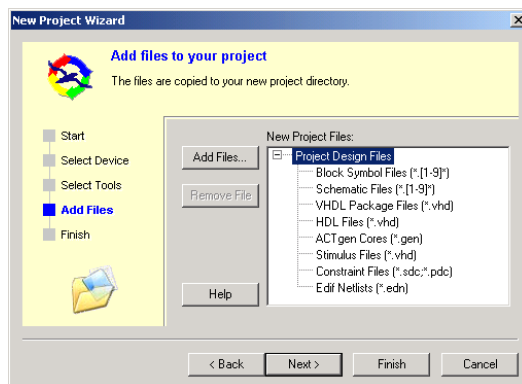

Figure 3-5. Add Files in the New Project Wizard (Libero IDE)
- Add Files** in the **New Project Wizard** to add existing Project Design Files, including any ACTgen cores or Block Symbol, Schematic, VHDL Package, HDL, Implementation, and Stimulus files (Figure 3-5).